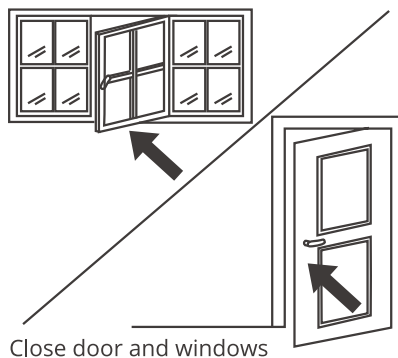

Fig.7
- Close the windows and doors in the room to be air conditioned (fig.7). When installing the appliance semi-permanently, you should leave a door slightly open (as little as 1 cm) to guarantee correct ventilation;